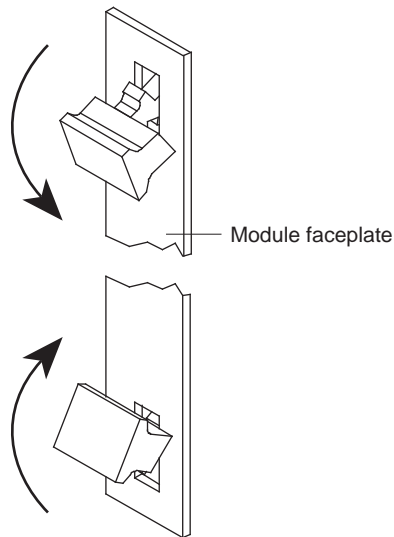

Figure 7 Handles in Inward (Inject) Position
- 7 Relocate the inject handles back to their center position by gently pushing them inward. See Figure 7.